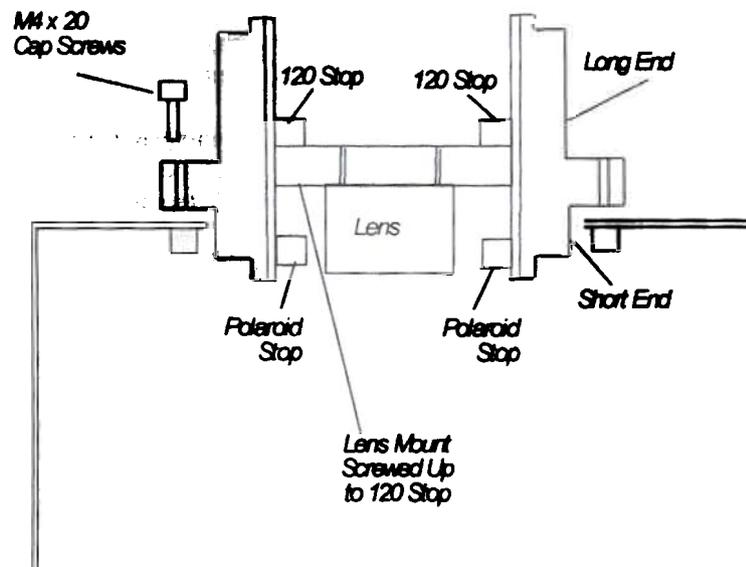

Figure 4 120mm Camera Lens Mounting
- The **120mm** camera back will usually be sent with its own camera assembly, but some early *Stereoscan 400's* may have a camera assembly that is interchangeable between Polaroid and 120mm. The procedure to change camera backs with this type of assembly is shown in Figure 4 as follows:-